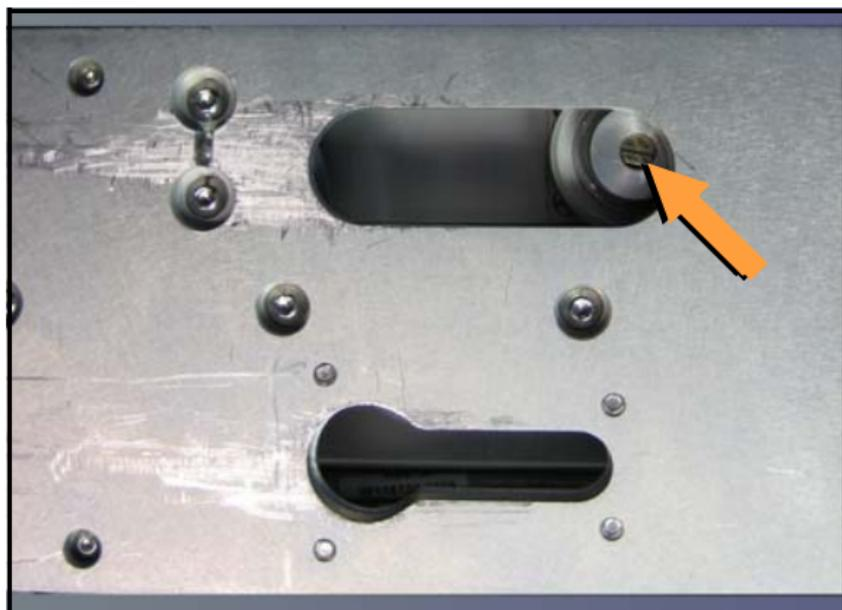

Figure 15—The bottom of a Programmer Module allows access to the actuating screws when power to the programmer is unavailable.
2. With a flat screwdriver, rotate the actuator screw shown in Figure 15 as many revolutions as necessary to free the Actuator Plate so it can be slid out.